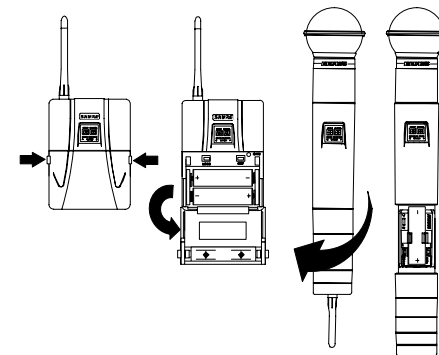

FIGURE 37
2. Open the battery compartment. This will expose the MODE (left) and SET (right) buttons, as well as the GAIN control and the batteries, as shown in Figure 37.